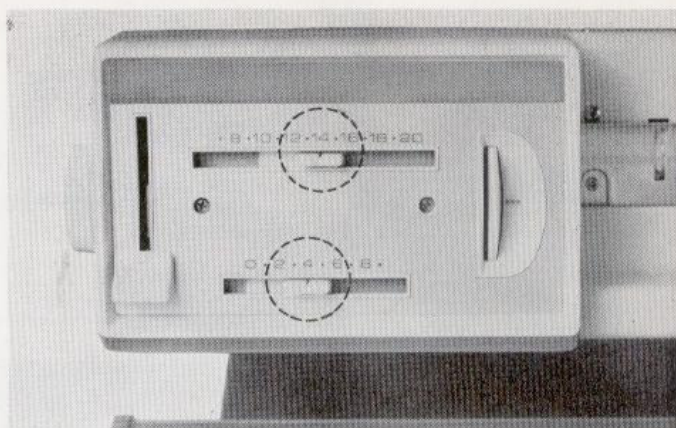

Fig. 20
A. How to set it for 60 rows measuring 144mm(14.4cm). Fig. 20
- (1) Push the clutch all the way up with your left hand and keep it there.
- (2) Set Regulator for c/m to 14 with your right hand.
- (3) Then set Regulator for m/m to 4.